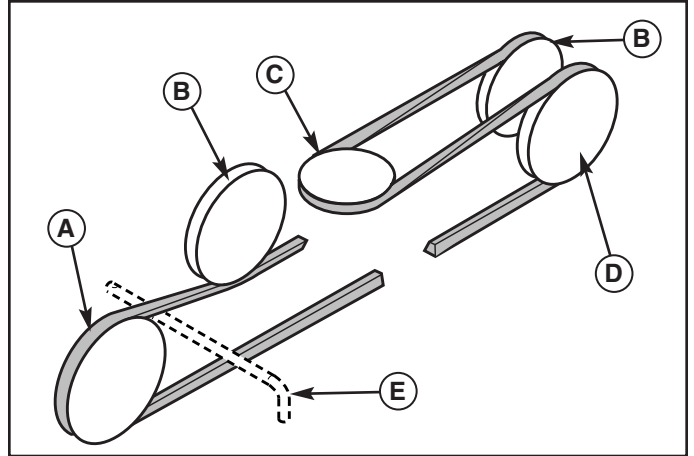

**Figure 29. Rotator Motor Electrical Connection (Right Side Mount)**
6. Raise the hood and route the wire harness (A, Figure 29) along the edge of the frame. Connect wire tie (B) loosely around the wire harness (A) and engine shield (C). Route the wire harness (A) through the lowest opening in grill as shown. Slide clip (D) onto hole (E). Place harness (A) into clip (D).
*Note: Leave the wire tie (B) loose to aid in seasonal removal of snowthrower.*